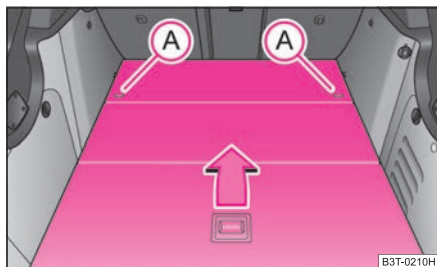

Fig. 80 Luggage compartment: remove raised floor
- Unlock the floor by turning the safety eyes **(A)** to the left by approx. 90° ⇒ fig. 80.